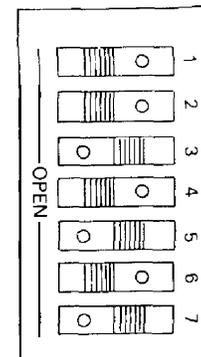

Figure 4. Dip Switch
See the "Installation" section and Figure 4 of this Data Sheet.
4. Any combination of Input, Output, I/O Transmitter and/or Remote I/O Driver modules can be installed in the other ten card slots in the rack, after the DIP switches (Figure 4) for each have been set to the appropriate address as indicated in Table 2. Note that an optional wiring trough is available to facilitate field-wiring to the various modules.